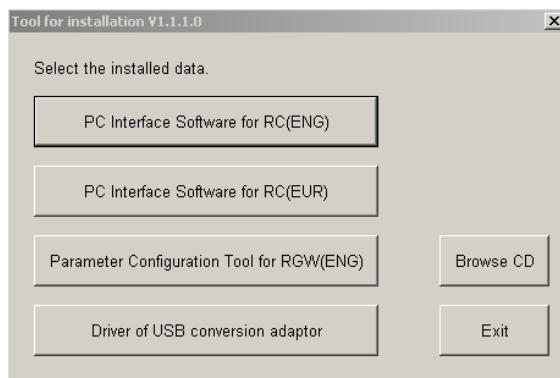

Fig. 1.1 Installed Data Selection Window
- [2] The installed data selection window (Fig. 1.1) will be displayed.
- * What to do when the Installed Data Selection window (Fig. 1.1) does not appear
If the Installed Data Selection window (Fig. 1.1) does not appear after inserting the CD-ROM, follow the procedure below to display the Installed Data Selection window.
- b. Double-click  among the icons displayed. The Installed Data Selection window (Fig. 1.1) will appear.